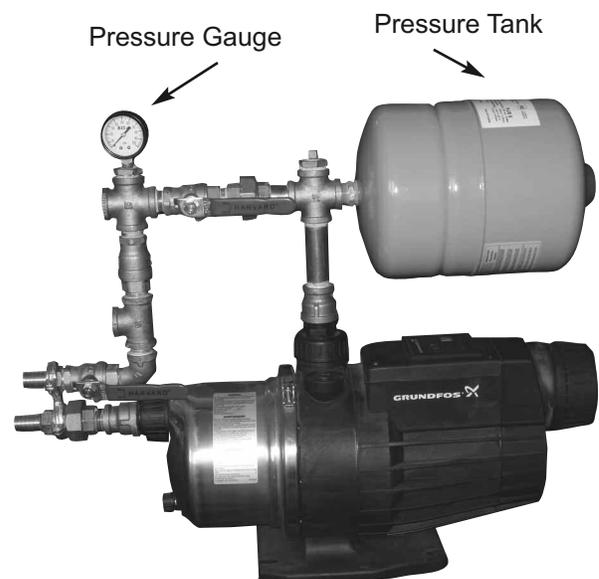

Figure 5
Check to ensure all components are intact and included in shipment (See Figures 5 and 8).
6. Install pressure gauge on jet pump assembly (See Figure 5).
7. Install 2.1 gallon pressure tank (See Figure 5).